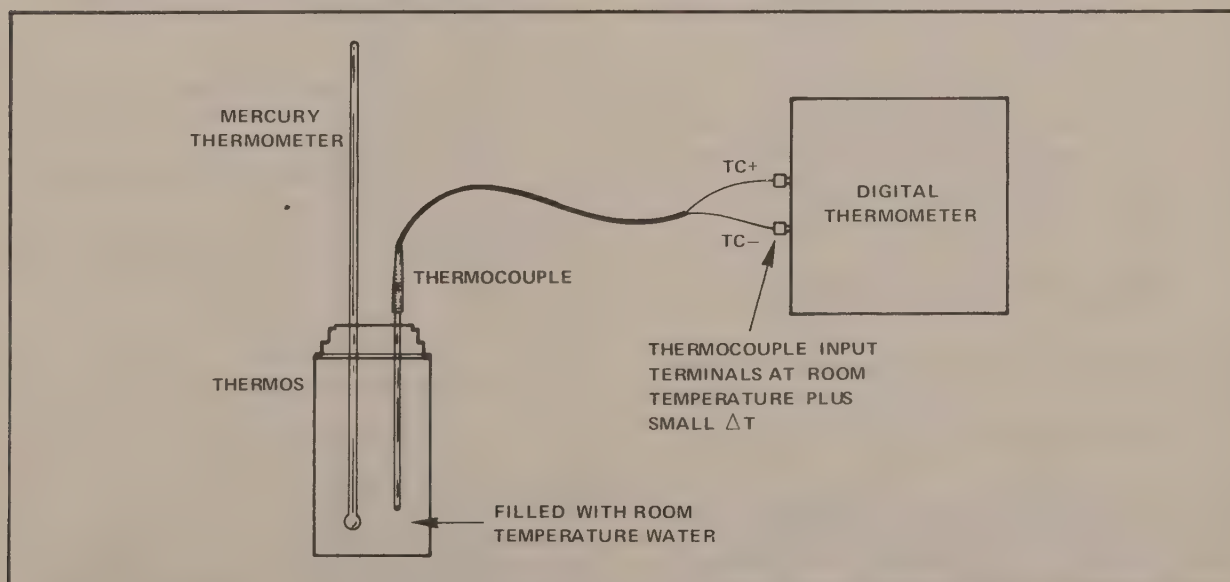

Figure 4-3. ROOM TEMPERATURE LAG BATH
- h. Place the thermocouple in a room-temperature lag bath. (See Figure 4-3 for an illustration of lag-bath
- b. Place the thermocouple in a room-temperature lag bath. (See Figure 4-3 for an illustration of lag-bath construction.)
- e. Place the thermocouple in a room-temperature lag bath. (See Figure 4-3 for an illustration of lag-bath construction.)